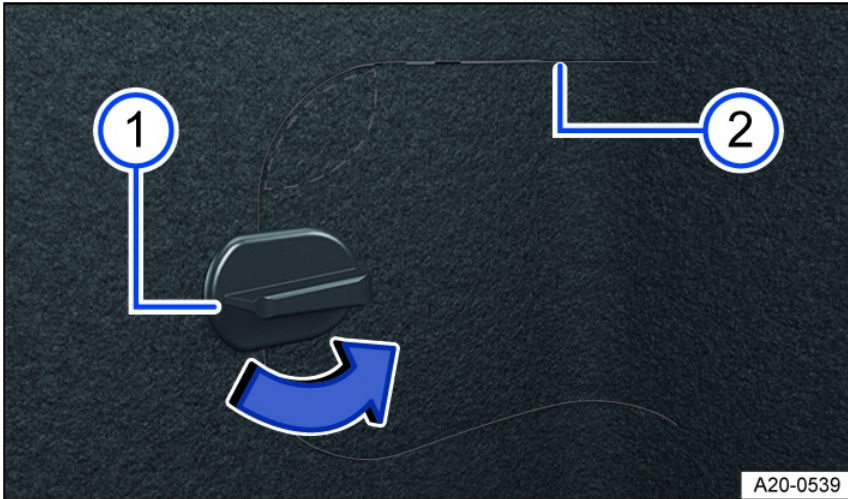

Fig. 133 In the bottom right luggage compartment trim: Flap for emergency release.
2. Turn the flap lock by 90° *fig. 133* (blue arrow).
3. Press in the area above the fastener *fig. 133* (area marked).
4. Reach into the opening and pull the flap to release it. If necessary, use a suitable aid at the separation points *fig. 133*.